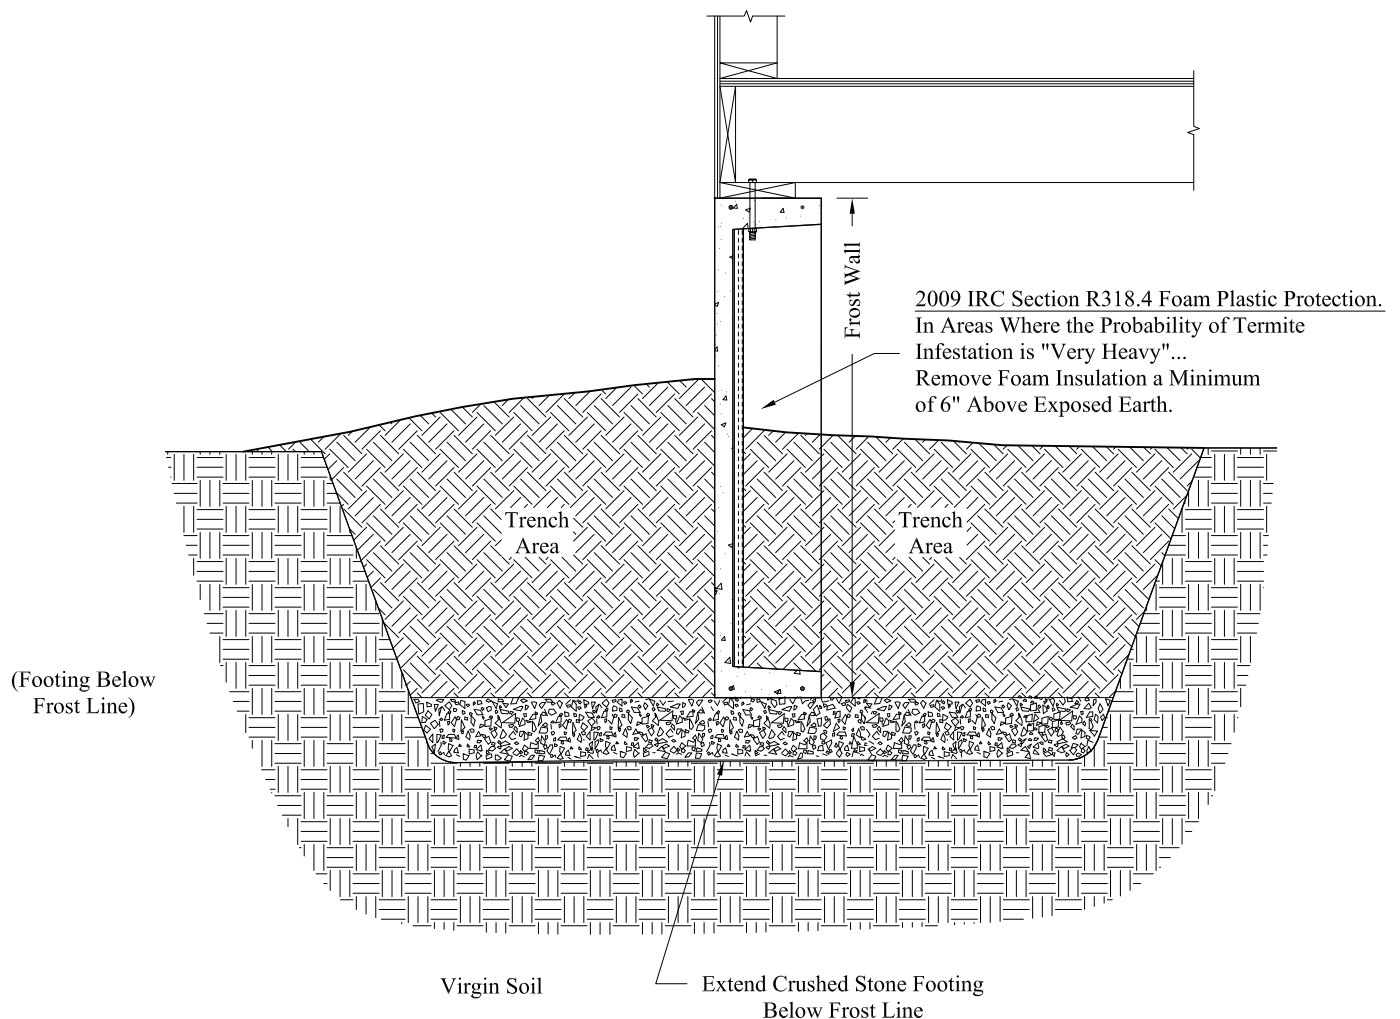

Figure 6
- Walls placed in trenches, as illustrated in Figure 6, do not require a perforated drain pipe to be installed.